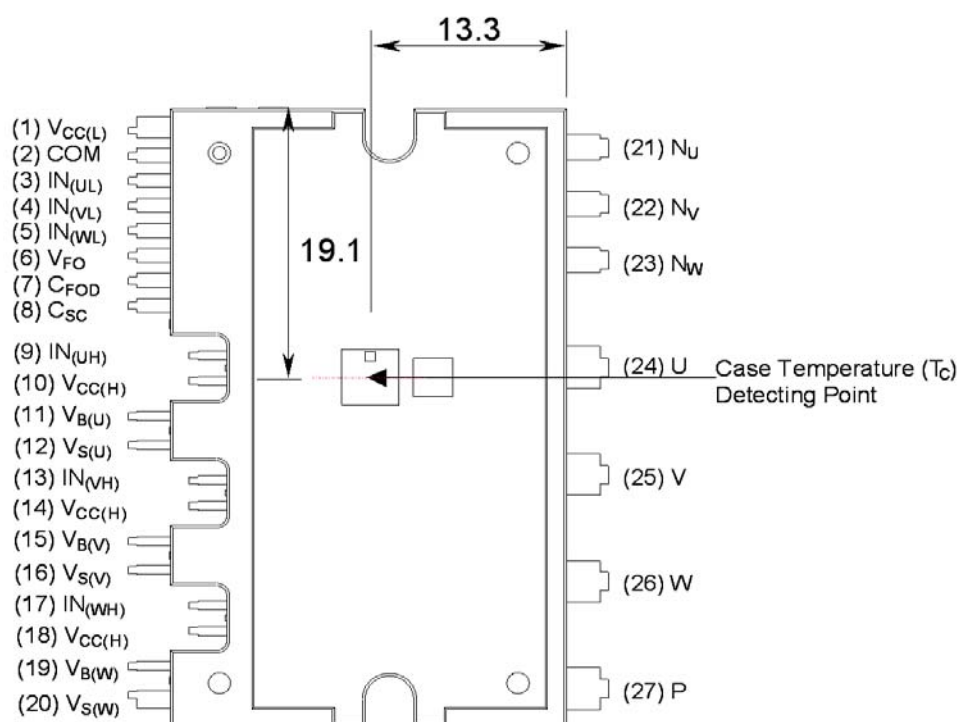

Figure 2. Top View
2. For the measurement point of case temperature (T_C), please refer to Figure 2.